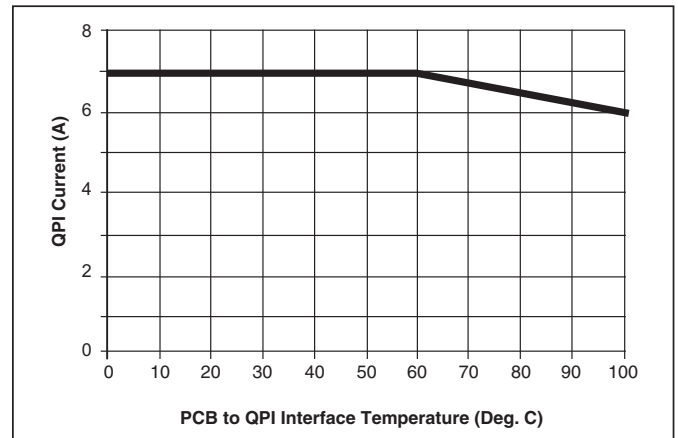

Figure 5 – QPI-3 current derating curve.
- -40° to +100°C PCB temperature (See Fig. 5)
Note 3 – Refer to Figure 5 for current derating curve.
The current derating curve shown in Figure 5 should be used when the PCB temperature in close proximity of the QPI-3 exceeds 60°C. For example, the QPI-3 will support up to 6.5 A of current or 156 W from a 24 Vdc bus at an 80°C interface temperature. Temperature should be measured at the PCB interface to the QPI-3 on the Bus +/- pads or the QPI+/- pads. Refer to Figures 9, 10 & 12 for PCB layout recommendation.